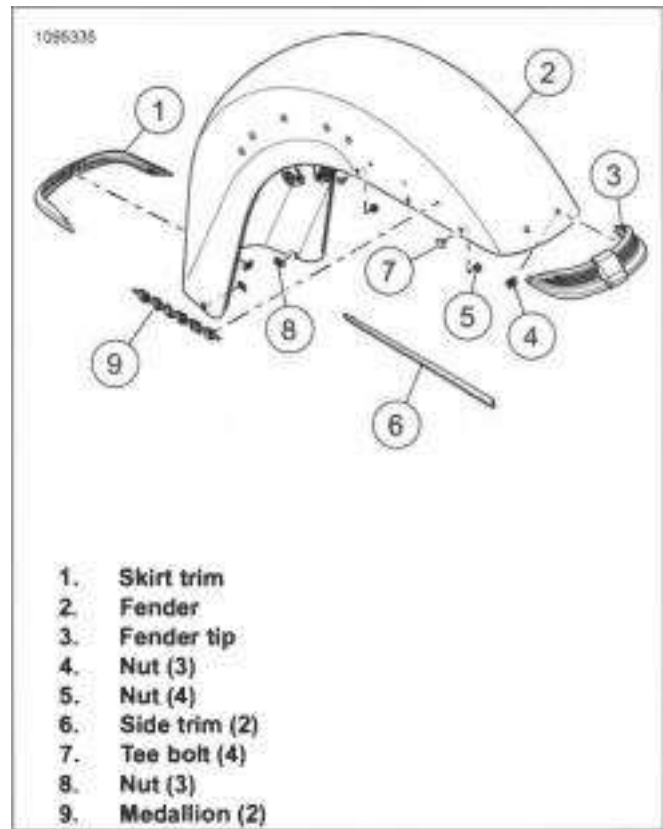

Figure 3-127. Front Fender Disassembly (Typical)
1. See Figure 3-127. Remove side trim.
- a. Remove nuts (5).
- b. Remove trim (6).
- c. Remove tee bolts (7) from trim.
- a. Remove nuts (4).
- b. Remove tip (3).
3. Remove medallions (9). See MEDALLIONS, BADGES, TANK EMBLEMS AND ADHESIVE STRIPS (Page 3-156).
4. See Figure 3-127. Remove skirt trim.
1. See Figure 3-127. Install skirt trim.
- a. Position skirt trim (1) on fender (2).
- b. Install nuts (8).
- b. Remove adhesive backing from medallion (9).
- a. Position fender tip (3) on fender (2).
- b. Install nuts (4).